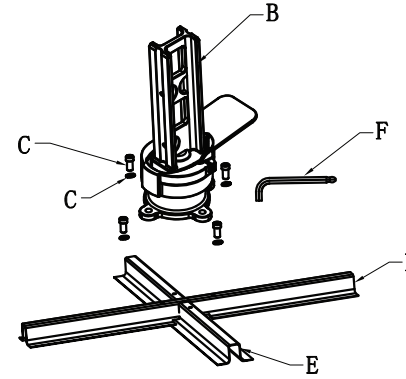

Fig.1
1. Assemble the two Cross base (D&E) together, then put the rotation bearing onto the cross base, see Fig.1